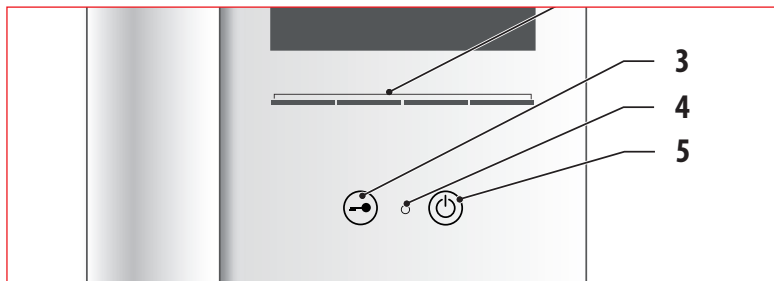

Fig. 10. Press the On/Off button on the indoor station.
The red LED on the Indoor Video Station will flash rapidly (4, Fig. 10) to indicate that the station is in programming mode.
- > Press the On/Off button (5, Fig. 10) on the Indoor Video Station. You will hear a single confirmation tone at the door. A voice connection is now established.